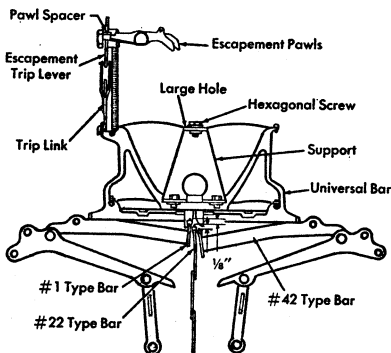

Figure 6. Adjusting the Universal Bar
The universal bar transfers motion from the type bar to the escapement mechanism. It allows the carriage to move one space under main spring tension for each type bar stroke. The escapement mechanism uses two pawls operating in a rack having one tooth every two spaces. As a type bar is driven toward the platen, it pushes the universal bar, the trip link, and the bottom of the trip lever to the rear. This action rocks the trip lever. The pawl spacer (located between the pawls) is driven forward against the tail of the escapement pawl that is holding the escapement rack. The pawl is tripped out and is snapped about $\frac{3}{64}$ " along the rack to the next tooth. The other pawl holds the rack and carriage (Figure 6).
Next, place type bar 42 beside type bar 22 but lagging away from the platen by $\frac{1}{8}$ " from type bar 22 (Figure 6). With the universal bar held in this position, loosen the hex-head stud that holds the rear flat spring to the bracket, to permit the universal bar to be held against the three type bars. Tighten the hex-head stud to retain the bar in this position. Test the tripping point with type bars 1, 22 and 42 to determine that they all trip the escapement at an equal distance from the platen (Figure 6).
2. THE TRIP LINK should disengage the escapement pawl from the rack when any type face is $\frac{3}{8}$ ", plus or minus $\frac{1}{16}$ ", from the platen for the short-tooth escapement. Adjust the trip link in long-tooth escapement machines to trip the pawl when any type face is just striking the ribbon. Check that the pawl spacer does not choke off against the escapement pawl bracket when a type bar is held against the platen (Figure 6).